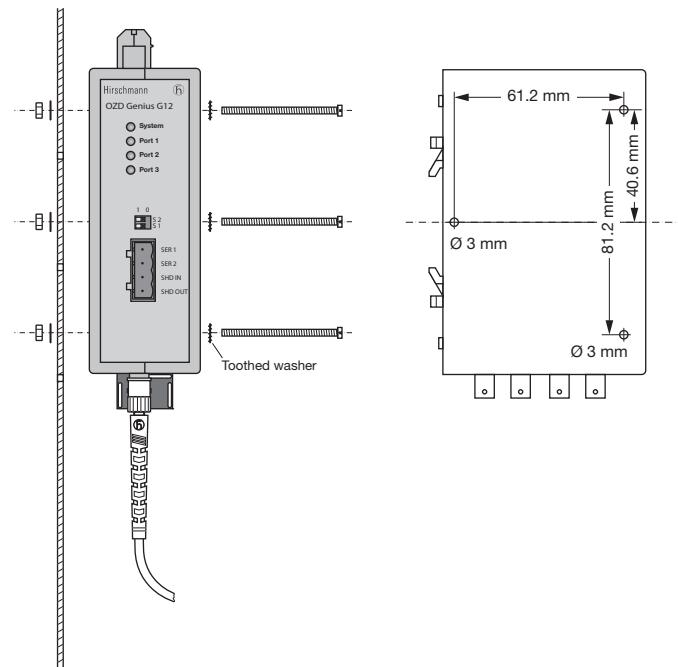

Fig. 7: Mounting repeater on mounting plate
- Make three holes in the mounting plate corresponding to the drilling template shown in Fig. 7.